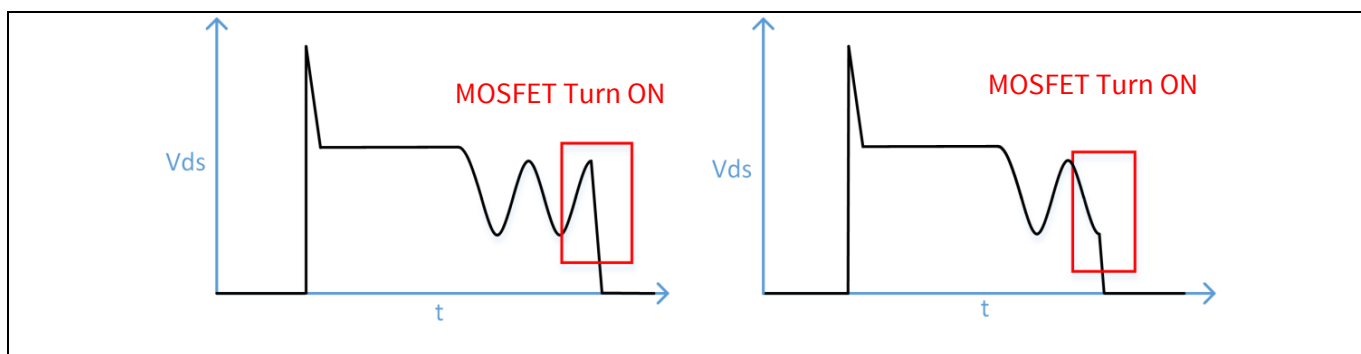
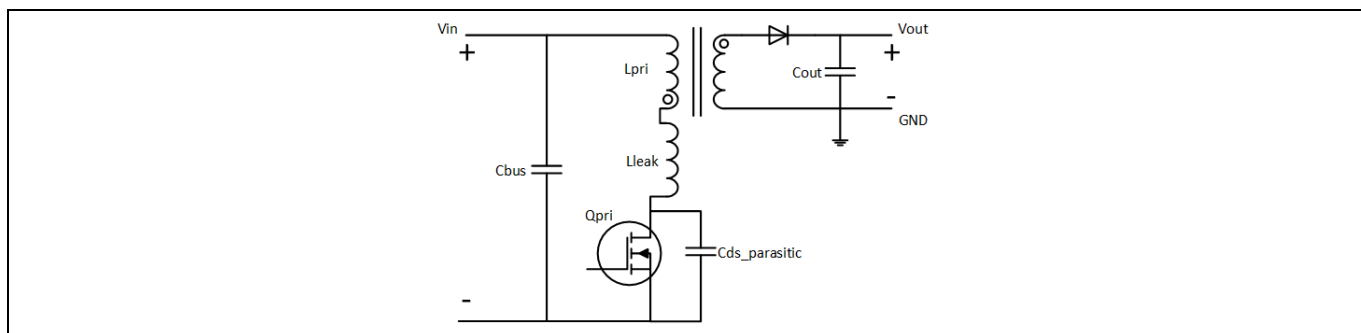

Figure 2 Fixed frequency flyback primary MOSFET drain source waveform (left) vs. a QR flyback primary MOSFET drain source waveform (right).
Figure 3 Simplified flyback schematic
The quasi-resonant (QR) flyback offers improved efficiency and electro-magnetic interference (EMI) performance over the traditional fixed frequency flyback converter by reducing switching losses. This is accomplished by controlling the turn-on time of the primary MOSFET (Q_{pri} in Figure 3). In a flyback operating in discontinuous conduction mode (DCM), the energy is first stored in the primary side when the primary MOSFET (Q_{pri}) is turned on allowing the primary current to ramp up. The primary MOSFET (Q_{pri}) turns-off and the energy stored in the transformer transfers into the secondary side capacitor. The energy that is left in the primary inductance (L_{pri}) after transferring the energy to the secondary then resonates with the combined output capacitance of the MOSFET ($C_{DS_parasitic}$) consisting of the MOSFET output capacitance (C_{OSS}), stray drain source capacitance from the transformer and layout, and any additional added external drain source capacitance on this node. In a fixed frequency flyback the switch turn-on happens regardless of the MOSFET drain source voltage (V_{DS}). If switching occurs at a higher V_{DS} (Figure 2), this leads to more switching losses (E_{OSS} losses). The QR flyback waits to turn on Q_{pri} until the V_{DS} voltage reaches the minimum possible voltage shown in Figure 2 and then turns-on the MOSFET.